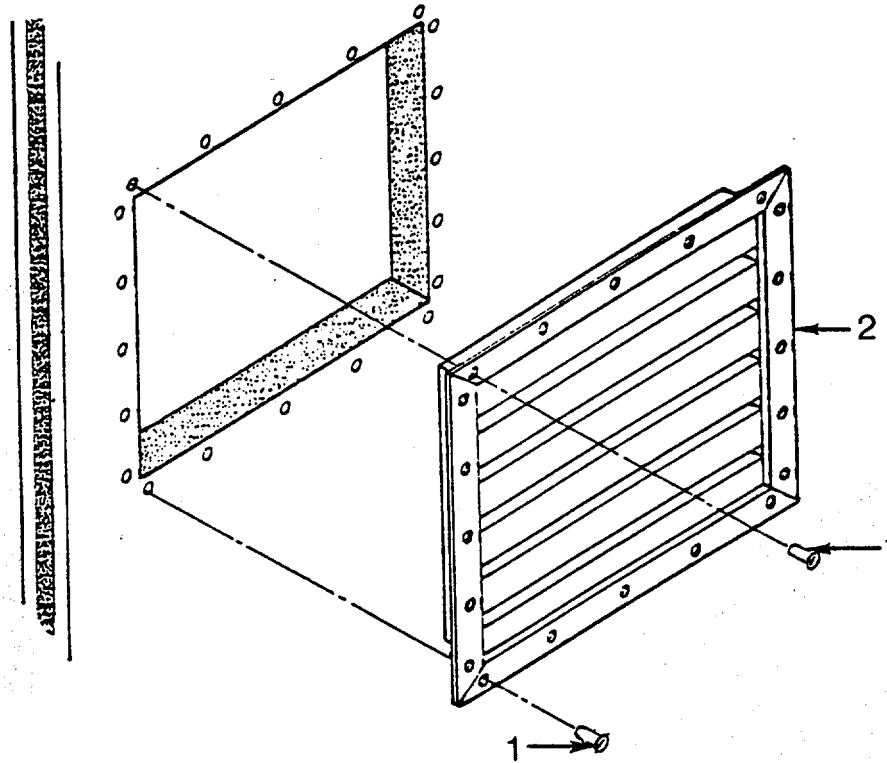

**Figure 4-63. Louver Assembly Removal**
(4) Check curtain track (5) for secure mounting.
(5) Inspect wall partition louver assembly (2, Figure 4-63) for bends, holes, and any damage that will restrict air flow or allow light through.
(11) Remove screws (1, Figure 4-63) louver (2).
- (15) Install louver (2, Figure 4-63) and screws (1).